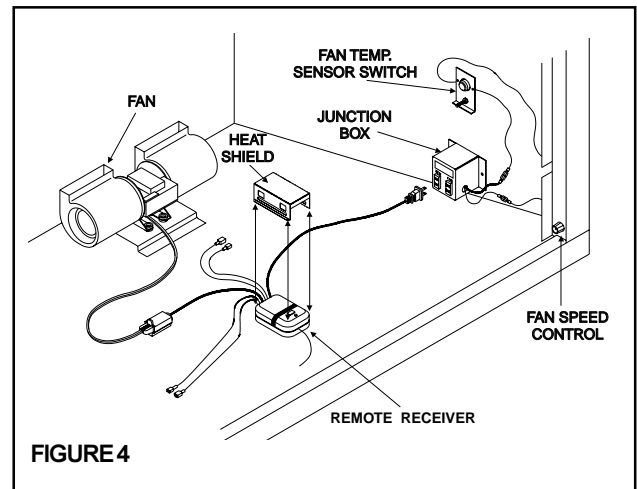

FIGURE 4
- Plug the cord from the blower (2-prong male plug) into the 15-inch black cord (2-hole female plug end) of the remote receiver. NOTE: Unplug the blower cord from the fireplace junction box if it has already been installed there. (See Figure 4)
- Place heat shield over the receiver as indicated by Figure 4. Be sure that heat shield does not rest on any wires. NOTE: Heat shield will not work in insert units because of space limitations.